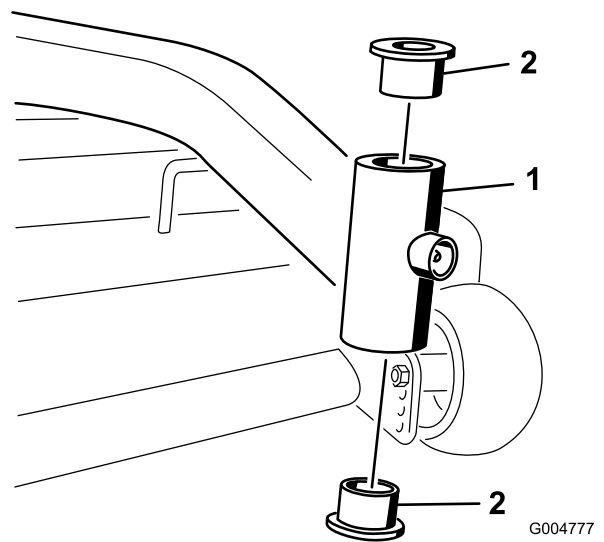

Figure 58
4. Insert a pin punch into the mounting tube and carefully drive out the bushings (Figure 58). Clean the inside of the mounting tube.